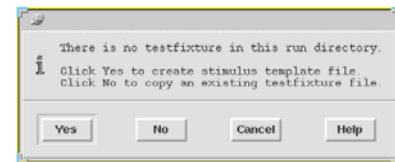

Fig 7: Dialog Box
- A dialog box appears as shown in Fig. 7. Click **Yes** in the dialog box.